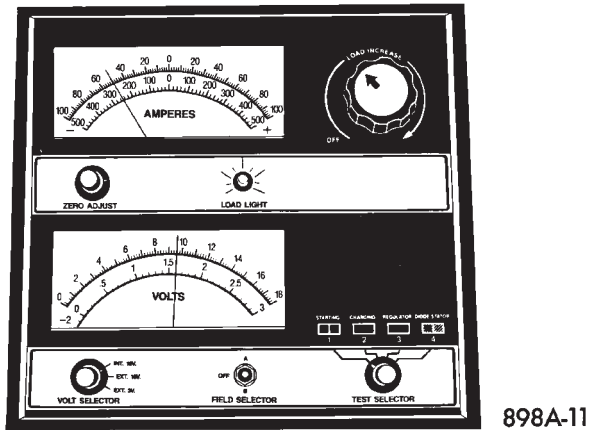

Fig. 5 Load 50% Cold Crank Rating
(5) Rotate the load control knob on the tester to maintain 50% (260) of the battery cold crank rating for a minimum 15 seconds (Fig. 5).